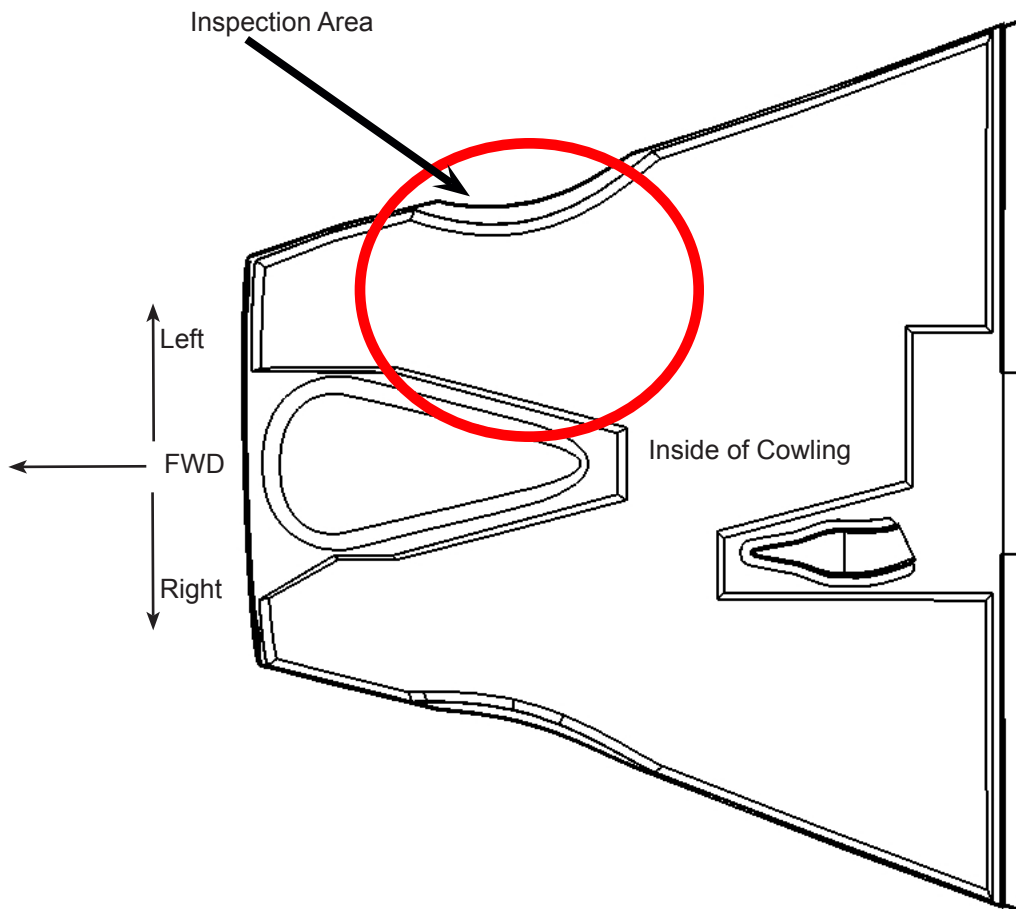
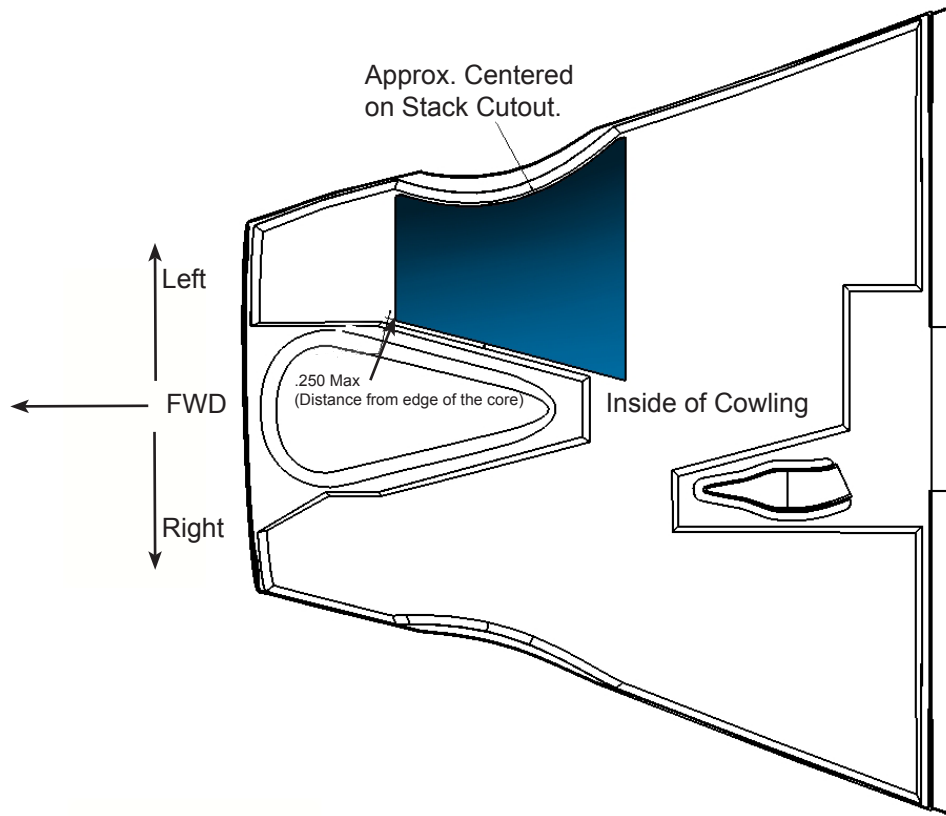

Figure 1-1: Nose Cowling Inspection Area
Figure 3-1: Nose Cowling Heat Blanket Installation
Quest is recommending a one time inspection of the nose cowling (P/N **100-171-2401**) as shown in **Figure 1-1**, and installation of a nose cowling heat blanket (P/N **100-171-2403**) to the area shown in **Figure 3-1**.
Inspect the interior and exterior of the nose cowling (P/N 100-171-2401) in the location indicated in **Figure 1-1**. Inspect for delamination, major discoloration and blistering. If damage or defects are detected, proceed to **Section 2**, otherwise proceed to **Section 3**.
1. Position the nose cowling heat blanket (P/N **100-171-2403**) as shown in **Figure 3-1**.